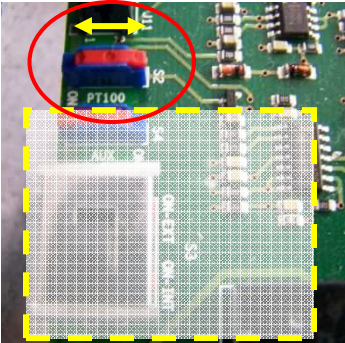

Figure 12-6: S2 switch to enable PT100
- ➔ On control board (Figure 6-1 H), set S2 switch (Figure 12-6) to ON and press [OK].